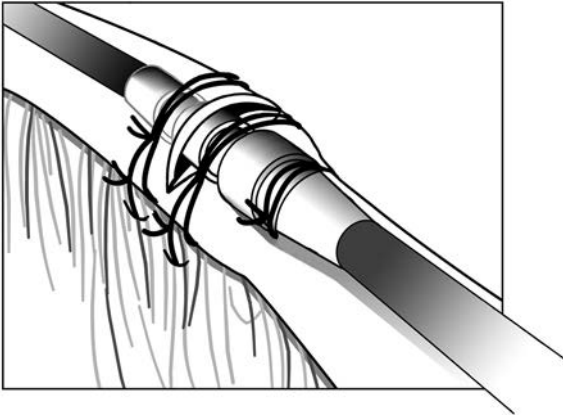

Figure 9. Example of suture sleeve, venous cutdown technique
3. Using the same groove, secure the lead and vein to the adjacent fascia (Figure 9 Example of suture sleeve, venous cutdown technique on page 21).